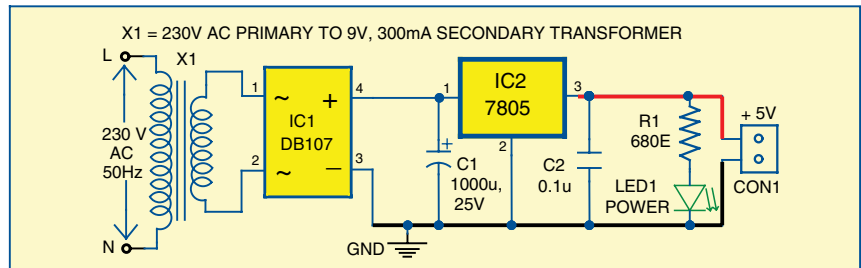

Fig. 2: Circuit of the power supply
**Power supply.** The circuit requires 5V DC regulated voltage. The power supply circuit is shown in Fig. 2. 5V DC is derived from 230V AC mains through a transformer (X1), bridge rectifier DB107 (IC1), 7805 regulator (IC2) and a few other components. Glowing of LED1 indicates the presence of power in the circuit.